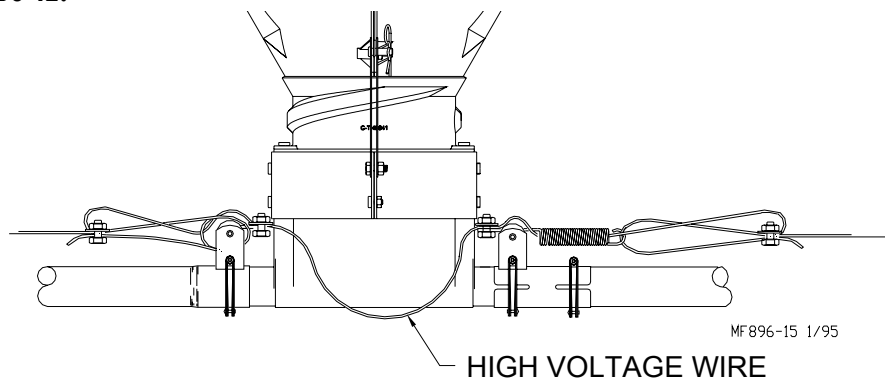

Figure 42. High Voltage Wire Installation
13. Install the High-Voltage wire from the insulator on one side of the boot to the insulator on the other side of the boot. See **Figure 42**.